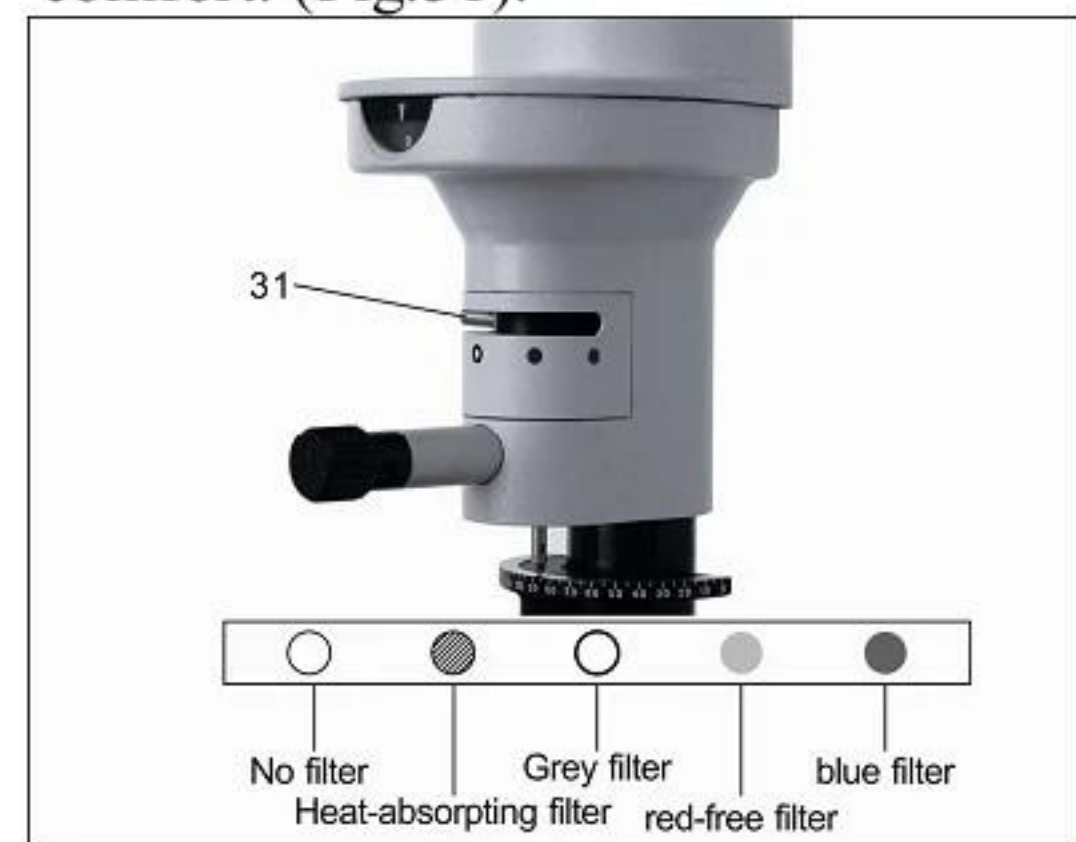

Fig.31
By shifting the filter selection lever (28) four different filters can be inserted into the illumination pathway. Usually the heat absorption filter is used for patient comfort. (Fig.31).